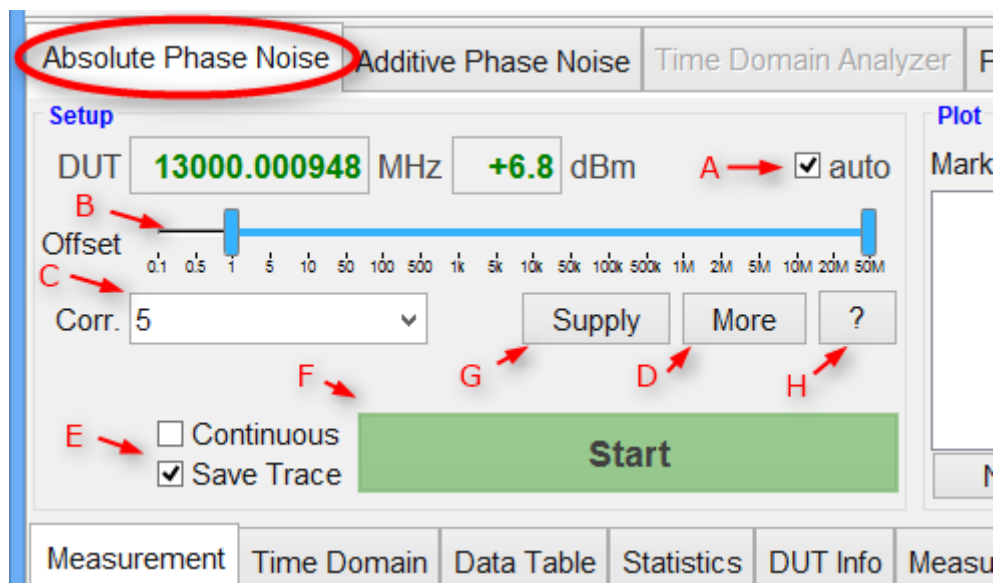

Figure 6 Setup section of absolute phase noise tab
- A) **Enable internal frequency counter and power meter** (see Figure 6): If the search button is enabled, the counter and power meter are running and constantly updating the detected DUT frequency and power. Disabling allows manual entry of the DUT frequency. Internal counters and power detector is shut down. Per default, the auto-detection is on and once a valid signal is detected, the measure button turns green and is enabled.